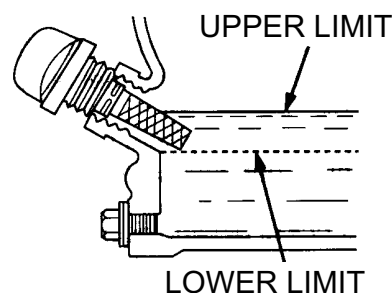

Figure 6. Engine Oil DipStick (Oil Level)
4. If the oil level is low (See Figure 6), fill to the edge of the oil filler hole with the recommended oil type (Table 5). Maximum oil capacity is 0.61 quarts (0.58 liters).